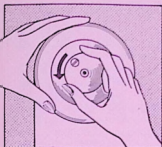

Fig. 14
Before you wind the bobbin, disengage the sewing mechanism from the flywheel by turning the coupling knob counter-clockwise in the direction of the arrow (Fig. 14).
and lead it back toward the spindle. Pull the thread through one of the small holes in the bobbin, from the inside (4). Place the bobbin on the spindle and **turn it slightly until it can be pressed all the way down.** While holding the protruding end of the thread, wind a few turns of thread on the bobbin by pressing against the knee control lever. Stop and cut off the loose end next to the bobbin. Continue winding the bobbin which, when full, will stop automatically, due to the bobbin winder stop. It is advisable to press lightly with the left hand against the top of the spool of thread as the thread will thus be wound tightly and evenly. When the bobbin has been fully wound, remove it and swing the bobbin winder spindle to the side. Then connect the sewing mechanism with the flywheel by turning the coupling knob clockwise in the direction opposite to that of the arrow (see Fig. 14). The machine will then be ready again for sewing.